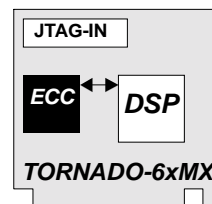

Fig. 2-26. Connection of *ECC* to *TORNADO-62MX/67MX* on-board TMS320C6x DSP.
*ECC* is a low-cost replacement for external TI XDS510 and MicroLAB' *MIRAGE-510DX* universal JTAG emulators and installs into the dedicated S4 socket on *TORNADO-62MX/67MX* mainboard (fig.2-26). *ECC* does not require external JTAG pod for connection to *TORNADO-62MX/67MX* board via JTAG-IN connector. Instead, the on-board *TORNADO-62MX/67MX* hardware provides direct connection of the *ECC* JTAG port to the on-board TMS320C6x DSP in case *ECC* is installed.